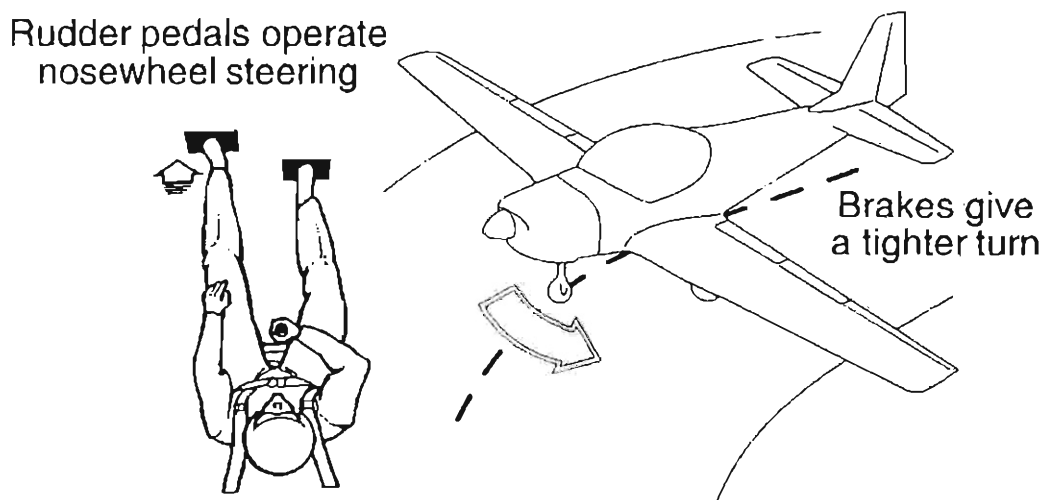

Fig 5.2 How to turn a Firefly during taxiing
16. As noted earlier, the rudder pedals are connected to the nosewheel leg. Thus, the aircraft is turned on the ground by operating the rudder pedal; right foot forward to turn right and left foot forward to turn left (Fig 5.2). The greater the movement of the rudder pedals, the smaller is the radius of the turn. If full rudder pedal movement does not produce a tight enough turn, then brakes can be used in the direction of the turn to assist; if turning left, a touch on the left brake toe pedal will produce a tighter turn. Although the correct use of brake produces a smaller radius turn, it also causes the nosewheel to scuff and should not be used unless absolutely necessary.